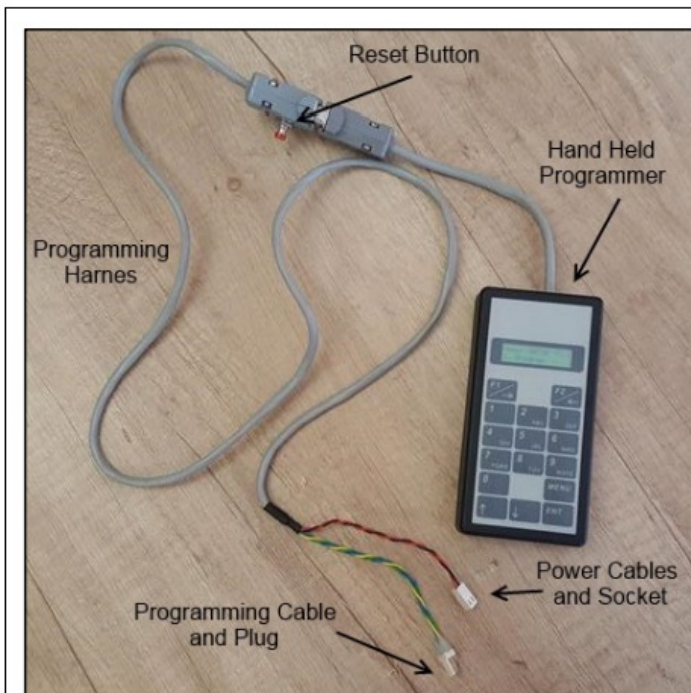

Figure 3: Programmer Setup
- Referring to Figures 3 and 4 above, the HHP will be equipped with an interfacing harness containing 5 wires namely Red (+), Black (-), White (Programming), Purple Programming) and Green (Reset). The Red and Black cables are terminated in a socket connector while the Yellow, Blue, and Green wires are terminated in a plug. The interfacing harness will also be equipped with a Red reset button mounted on the cover of the DB9 connector of the harness cable.